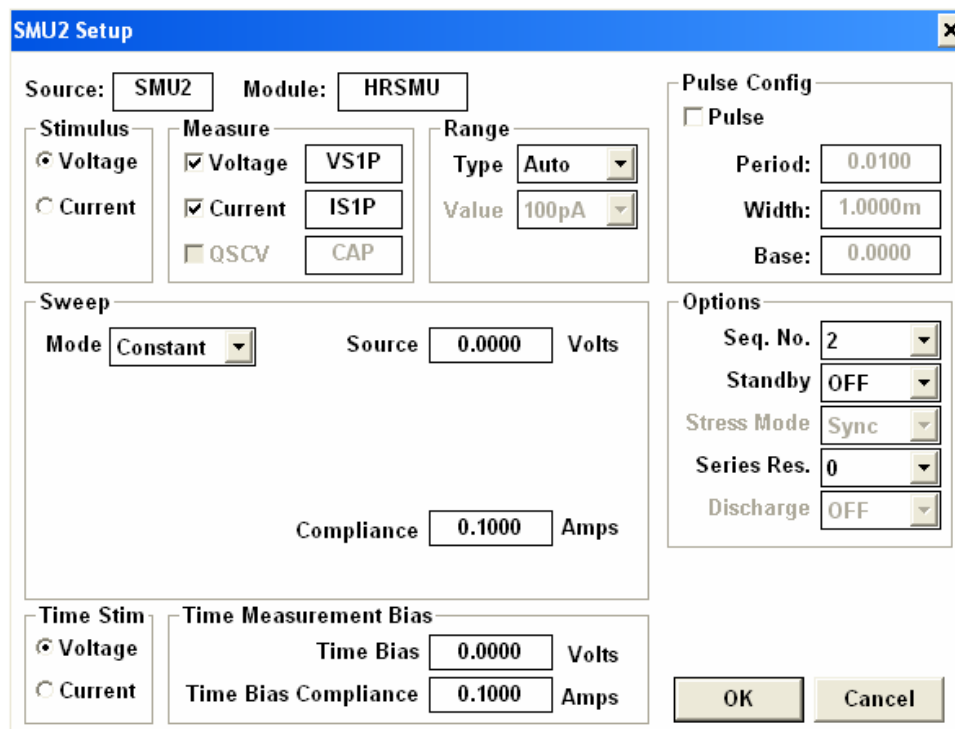
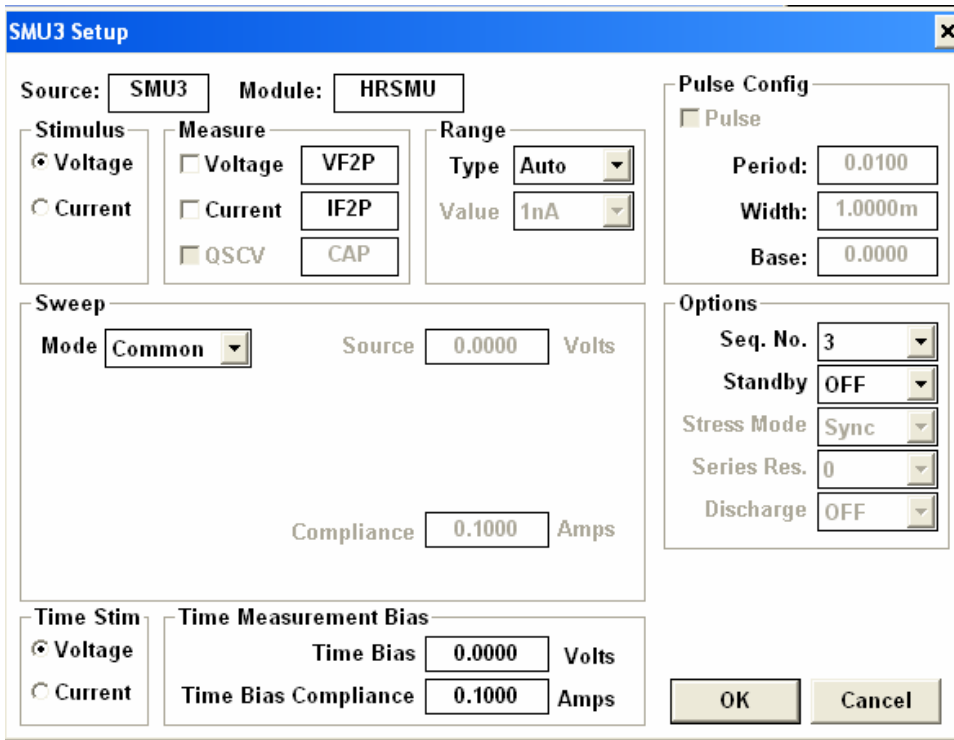

Figure 60: RES_AL setup for force current through A to D
Figure 61: RES_AL setup for force current through A to D (continue)
- To force the current through A and D click on SMU2 and SMU3 on the setup editor as shown in Figure 60 and Figure 61.